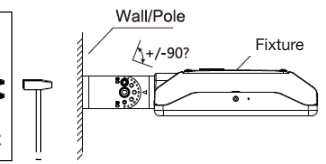

Fig. 20
3. Connect fixture to bracket and tighten screws. Connect power supply wires in junction box. **Note:** Adjustable angle is 0-90° (Fig. 20).